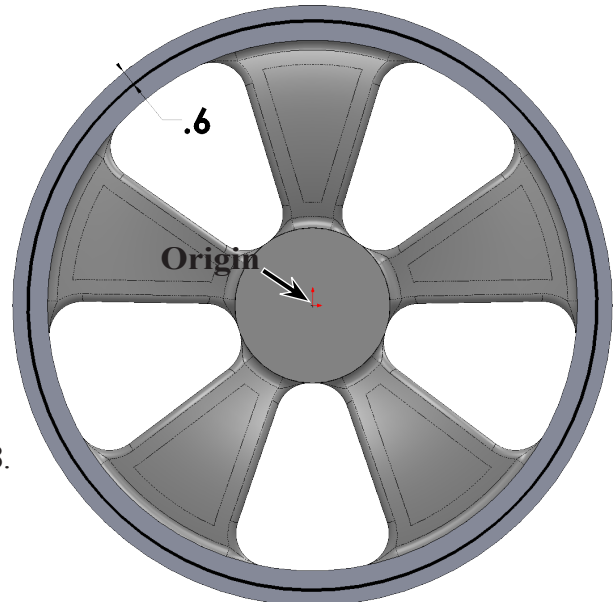
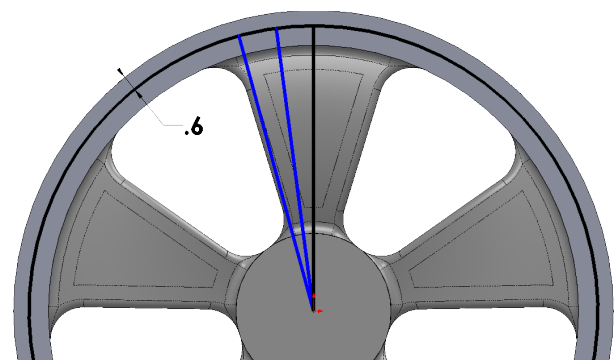

Fig. 38
Fig. 39
Step 5. Click **Circle**  (S) on the Sketch toolbar.
Step 6. Sketch a circle from Origin  almost out the edge of Rim, **Fig. 38**.
Step 7. Click **Smart Dimension**  (S) on the Sketch toolbar.
Step 8. Dimension **.6** circle to edge of Rim, **Fig. 38**. To dimension, select edge first.
Step 9. Click **Line**  (L) on the Sketch toolbar.
Step 10. Sketch **3 radial lines** from Origin  to circle **one being vertical line**, **Fig. 39**. To terminate chain, double click back on the line you have just sketched.